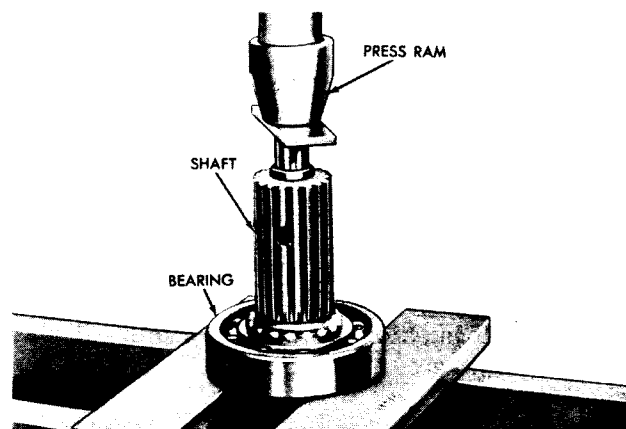

Fig. VI-40. Installing output shaft into ball bearing^{S3055}
(5) If the ball bearing has been removed from the output shaft, install the shaft in the bearing and press it until its shoulder seats against the bearing inner race (fig. VI-40).